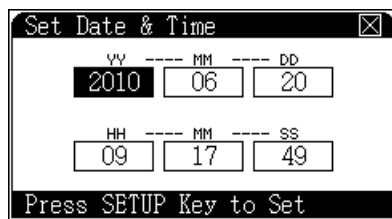

Figure 17 The Set Date & Time screen
- b The **Set Date & Time** screen opens. This screen displays the current year, month, day, hour, minute, and second (see Figure 17). Press the arrow keys to highlight the proper cell, then press **[Setup]** to select it.